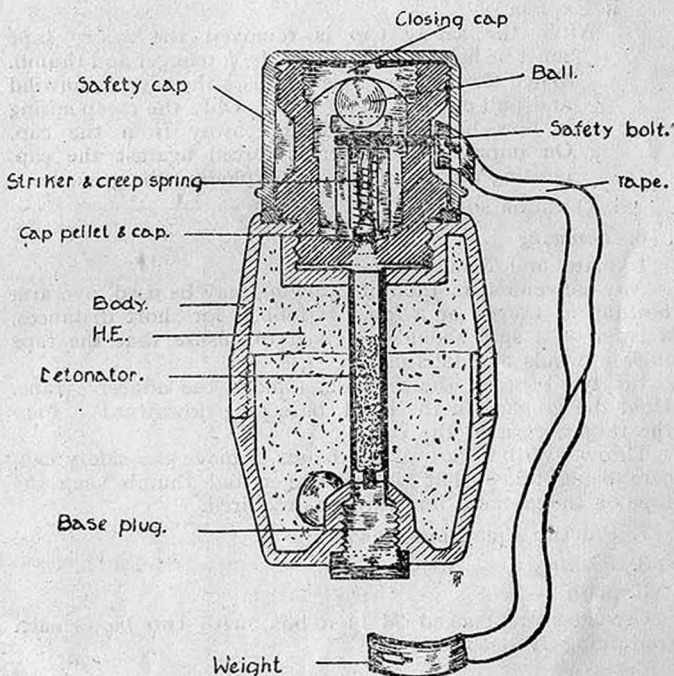

FIG. 15
i. Explain and demonstrate where necessary (see Fig. 15) :